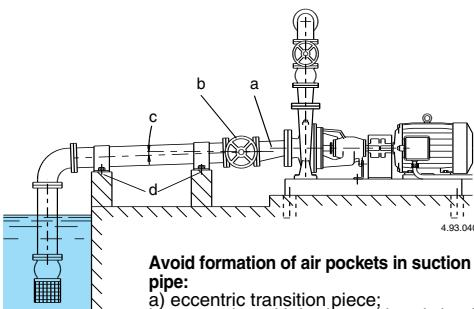
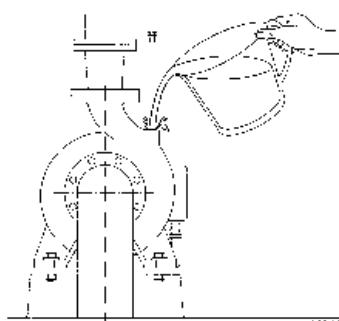

Fig. 4 Connection of pipes.
Fig. 8 Filling.
Use an eccentric transition piece to join the suction connection with a horizontal pipe of larger diameter (**fig. 4**).
**Do not use the pump to support pipes.** Pipes must be anchored on their own supports (**fig. 4**). Pipes must be modified if they do not correspond exactly with the position of connections to avoid transmission of stress to the pump.
**When the pump is located above the water level** (suction lift operation, **fig. 4**) or with a positive suction head which is too low (less than 1 m) to open the non-return valve, fill the suction pipe and the pump through the priming hole (**fig. 8**). Replace threaded plug after each operation.